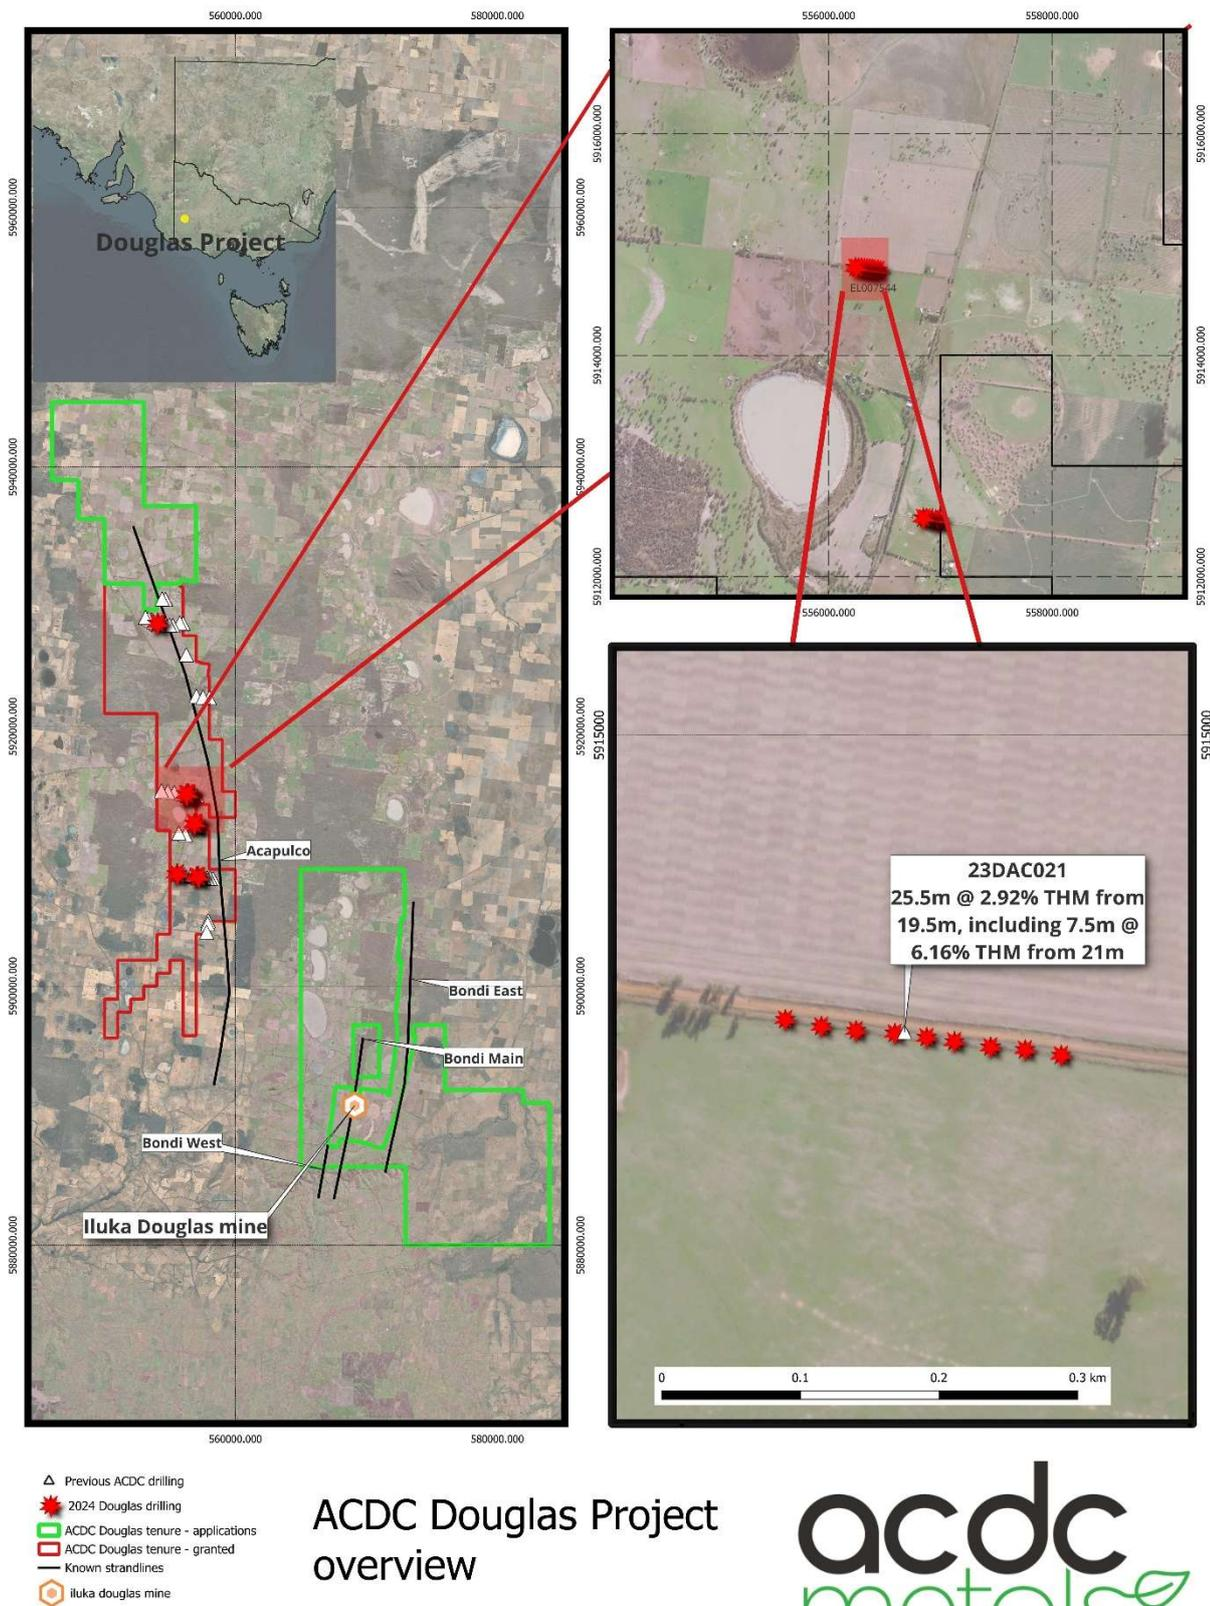

Figure 1 - Location of the project and overview
ACDC Metals Douglas Project lies 30kms west of the Douglas Mineral Sands Mine (mining licence MIN5367) which was operated by Iluka Resources Pty Ltd (**Iluka**) until 2012 and rehabilitation of the site has been ongoing since then⁴. The wider Douglas area is known for multiple mineralised strandlines forming the West Wimmera Strand Plain, including the four main strandlines of economic interest, which are, Acapulco, Bondi, Bondi East, and Echo (from west to east, refer to figure 1). Strandlines in this area are characterised by their particularly thick, wide and high heavy mineral (HM) grades. There is also an absence of cover sediments over much of the prospective beach sequence.